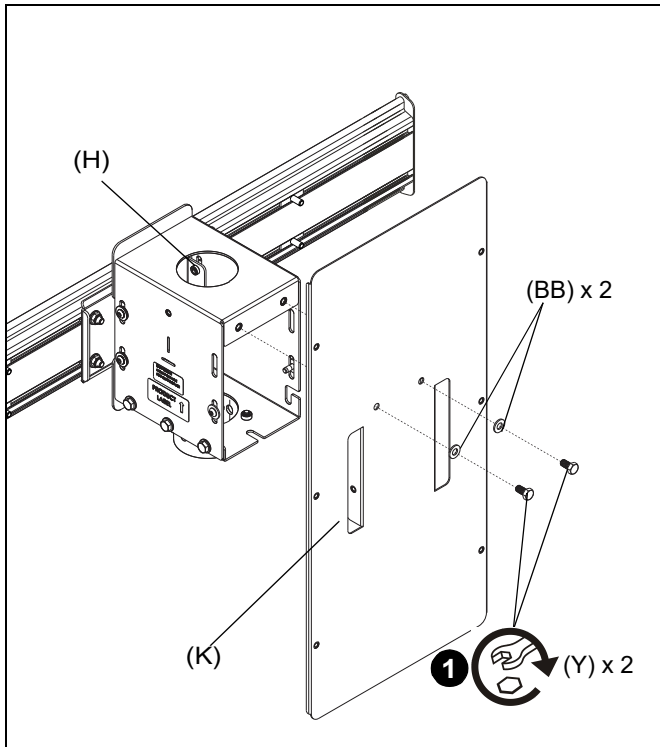

Figure 4
1. Use two 5/16 x 5/8" hex head bolts (Y) and two 5/16" washers (BB) to secure center wind shield (K) to back of mount assembly (H). (See Figure 4)